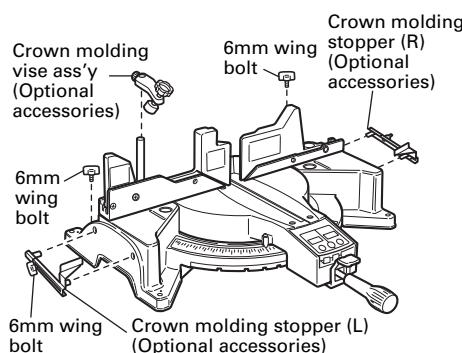

Fig. 41-a
(1) Crown molding Stopper (L) and (R) (optional accessories) allow easier cuts of crown molding without tilting the saw blade. Install them in the base both-sides side to be shown in Fig. 41-a. After inserting Tighten the 6mm wing bolts to secure the crown molding Stoppers.